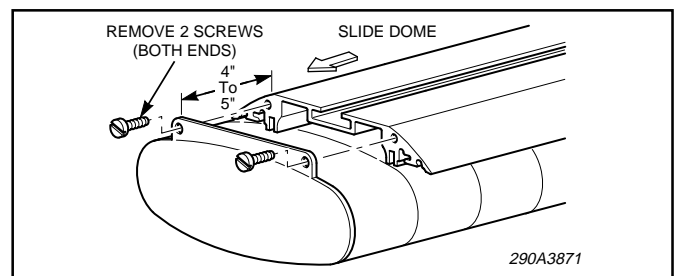

Figure 1.
1. Remove the two screws, located at the identification plate, at each end of a dome assembly. Slide both dome assemblies out about 4 or 5 inches, along the slots in the extrusion, and remove the plastic filler from the bottom of the extrusion. See figure 1.